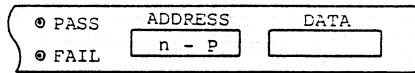

Fig. 9
- (13) Press the  key to terminate the CH instruction.
- (14) Remove the  $\mu$ PD78P09R inserted in the PG-1003 socket and insert another erased  $\mu$ PD78P09R into the socket.
(15) Press the mode select switch. The panel display gives the indication shown in Figure 9.